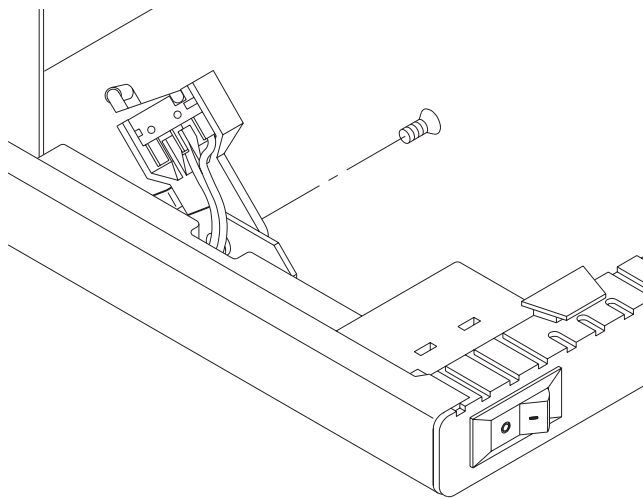

Figure 5-3 Moving the door switch plate
4. Using a T-15 TORX driver bit, remove the screw that holds the door switch plate in place, as shown in Figure 5-3. Move the switch aside (down and toward the front of the EXB-10i); do not disconnect the cable still attached to the switch.